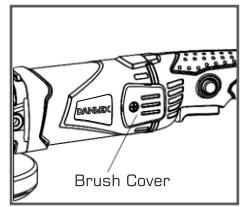

Fig8
2. Both carbon brushes should be replace at the same time. Use only DANLEX brushes provided(Fig8)